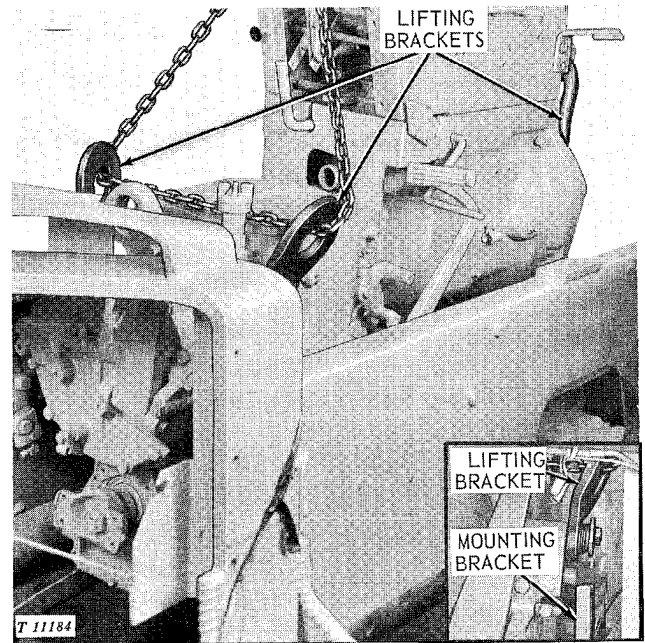

Fig. 5-Removing Clutch Housing and Transmission
6. Attach hoist with lift brackets to transmission case and clutch housing as shown in Figure 5.